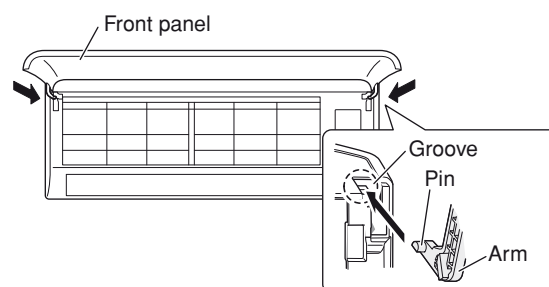

Fig. 18-1
- (1) Insert the bottom of the grille into the frame.
- (2) While aligning both edges of the grille with the frame, move the grille horizontally and insert the top and bottom into the frame.
- (3) Press the grille firmly with your hand to ensure no gap exists between the frame and grille.
- (4) Tighten the 2 screws and close the screw covers.
- (5) Grasp the sections near the front panel arms on both sides, hold the front panel so that it is nearly horizontal, bring the arm shafts into contact with the top of the grooves on the right and left sides of the air conditioner, and then push firmly until the arm shafts click into place. (Fig. 18-1)